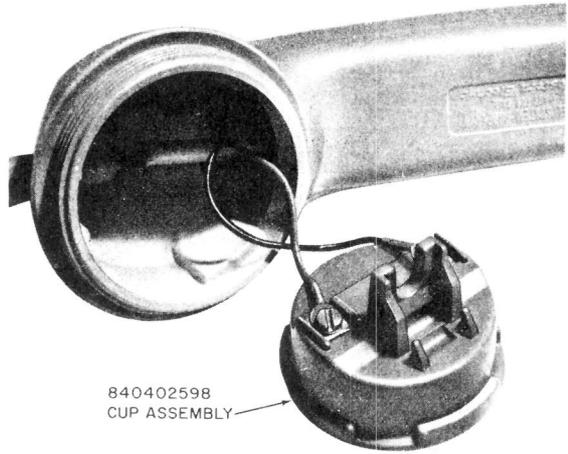
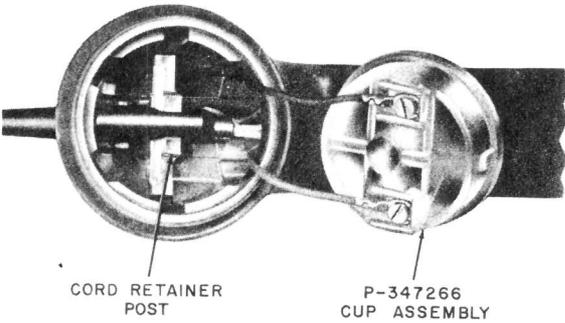

Fig. 6—Current G Series Handset
Fig. 5—Early G Series Handset
2.03 Early G-series handsets were equipped with cord retainer parts in the transmitter cavity (Fig. 5). Current G-series handsets are equipped with transmitter cups having the cord retainer molded on the cup (Fig. 6). The two types of cord retainer arrangements are not interchangeable.